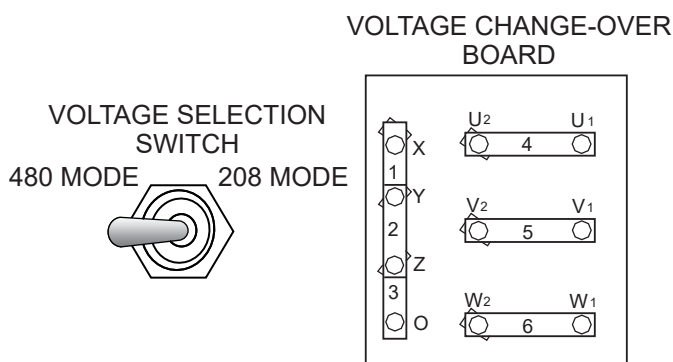

Figure 36. Voltage Selection Switch And Voltage Change-Over Board
1. Verify that the **Voltage Selection switch** and **voltage change-over board** (Figure 36) are configured for the desired output voltage.